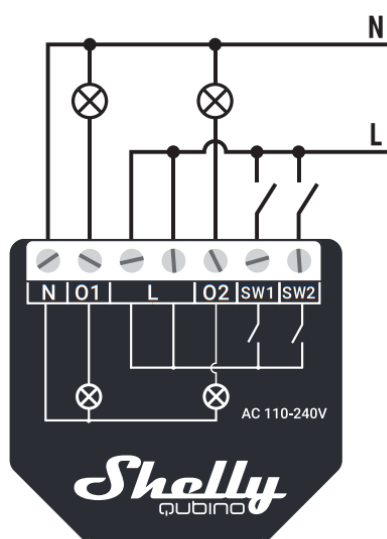
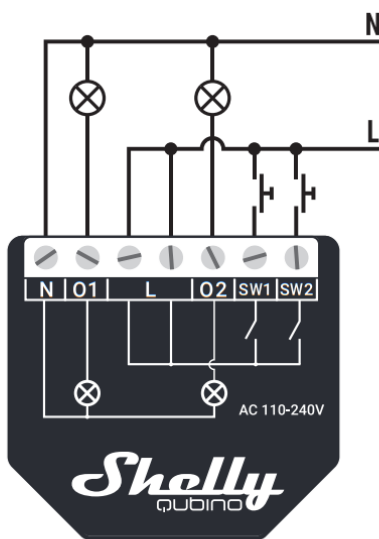
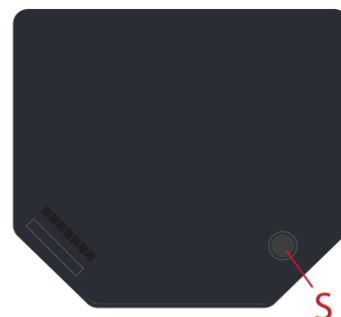

Fig. 1
Fig. 2
Fig. 3
- S: S button (Fig. 3)
If you want to use the Device with a push-button, refer to the wiring diagrams shown in Fig. 2 and Fig. 4. For a switch, refer to the wiring diagrams shown in Fig. 1 and Fig. 3.